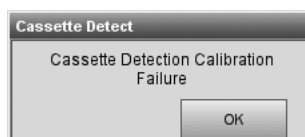

Fig. 8-46 Calibration
- The system performs a Cassette Detection Calibration (Fig. 8-46).